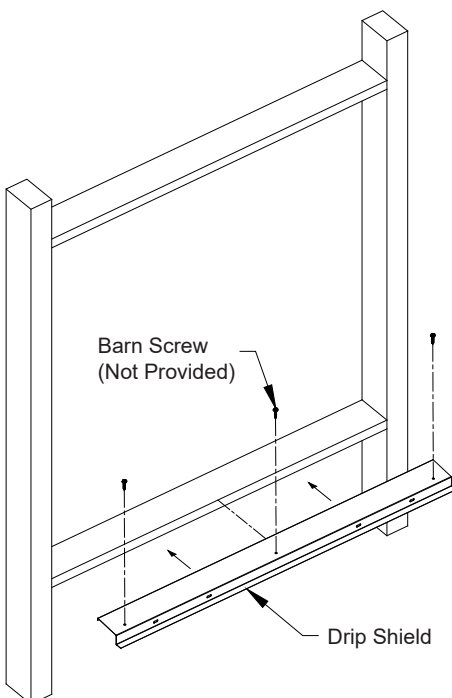

Figure 4A
Attach Drip Shield to bottom of framed opening using (3) Barn Screws (Not Provided). See Figure 4A and 4B. If a 4" wall is used a support board must be installed as shown in Figure 4B. Be sure not to deform Drip Shield when installing screws.